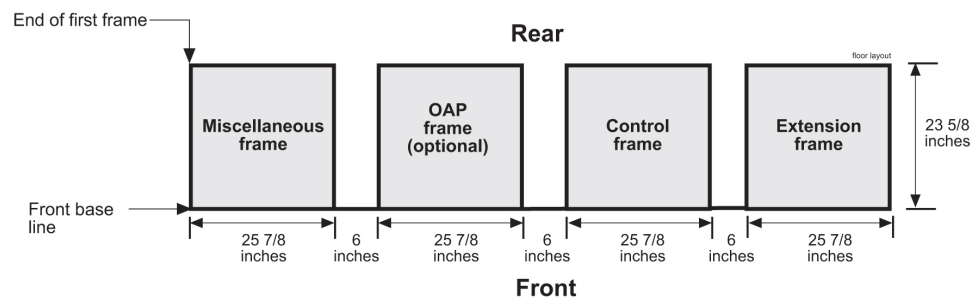

Figure 15: Typical Floor Layout for Frames
2. Use the floor plan provided with the engineering site file specifications to mark the front base line and the borders of the first frame with the chalk line (refer to Figure 15: Typical Floor Layout for Frames).